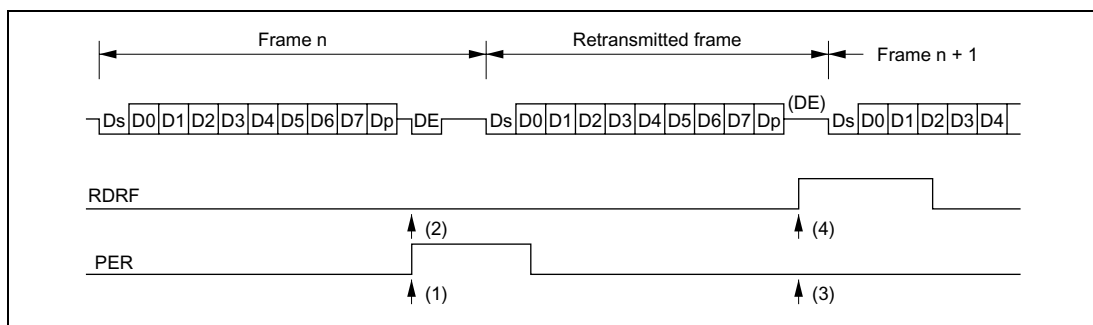

Figure 14.11 Retransmission in SCI Receive Mode
- Retransmission when SCI is in Receive Mode (see figure 14.11)
- (1) The SCI checks the received parity bit. If it detects an error, it automatically sets the PER flag to 1. If the RIE bit in SCR is set to the enable state, an ERI interrupt is requested. The PER flag should be cleared to 0 in SSR before the next parity bit sampling timing.
- (2) The RDRF bit in SSR is not set to 1 for the error frame.
- (3) If an error is not detected when the parity bit is checked, the PER flag is not set in SSR.
- (4) If an error is not detected when the parity bit is checked, receiving operations are assumed to have ended normally, and the RDRF bit is automatically set to 1 in SSR. If the RIE bit in SCR is set to the enable state, an RXI interrupt is requested. If RXI is enabled as a DMA transfer activation source, the RDR contents can be read automatically. When the DMAC reads the RDR data, it automatically clears RDRF to 0.
- (5) When a normal frame is received, at the error signal transmit timing, the data pin is held in the high-impedance state.